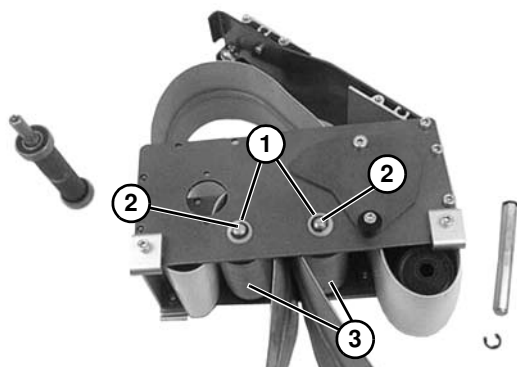

Figure 111
- a. For 2" (44 mm), 3" (70 mm) or 4" (95 mm) wide conveyor, remove E-ring clips and washers (**Figure 111, item 1**). Remove pulley shafts (**Figure 111, item 2**) and pulleys (**Figure 111, item 3**).